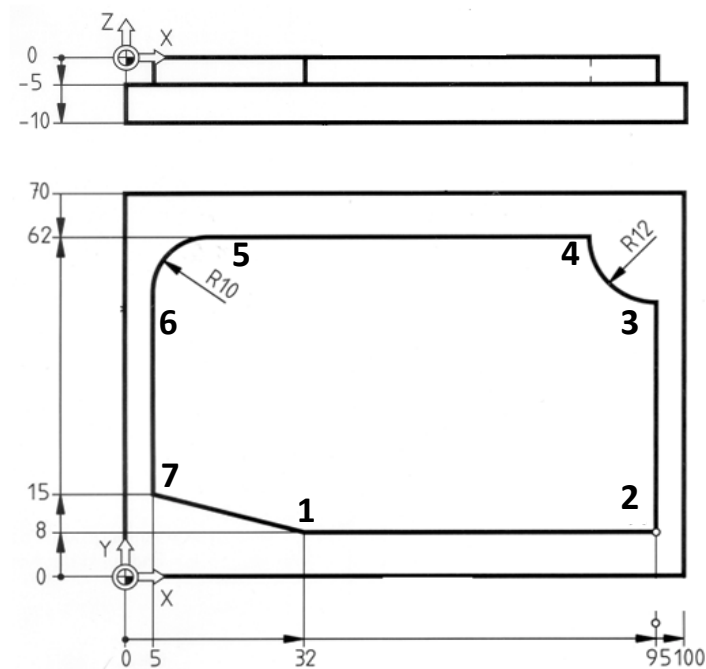

Figure 3c / Rajah 3c
- c) Based on **Figure 3c**, construct a G-code program to produce the object below using Computer Numerical Control (CNC) machine. Use absolute coordinate system.